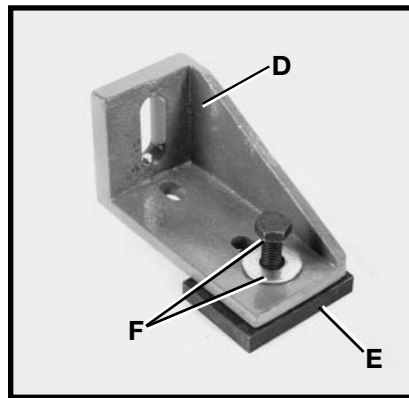

Fig. 10
3. Position clamping plates (E) Fig. 10 under mounting brackets (D). Fasten with M8 x 55mm socket head set screws (F) with 16mm x 41mm flat washers (F). Loosely tighten hardware (F) Fig. 10. Remove the tailstock from the machine.